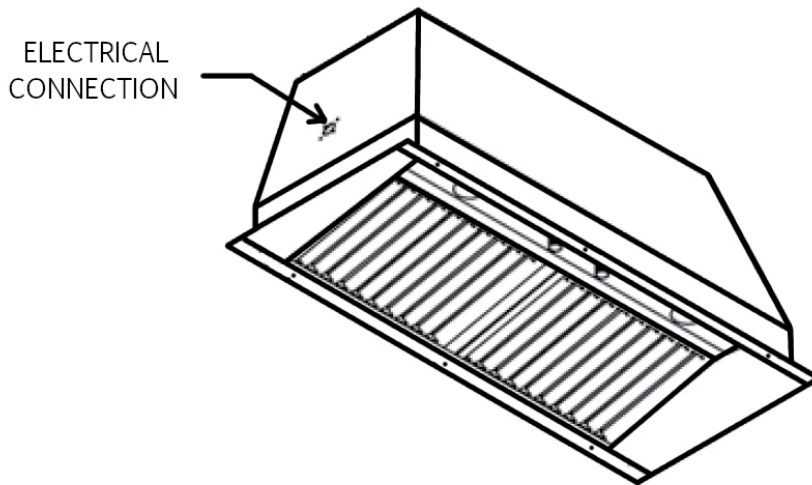

FIGURE 5: ELECTRICAL INLET HOLE LOCATION
5. Locate the electrical power inlet hole on the side of the range hood insert (SEE FIGURE 5).